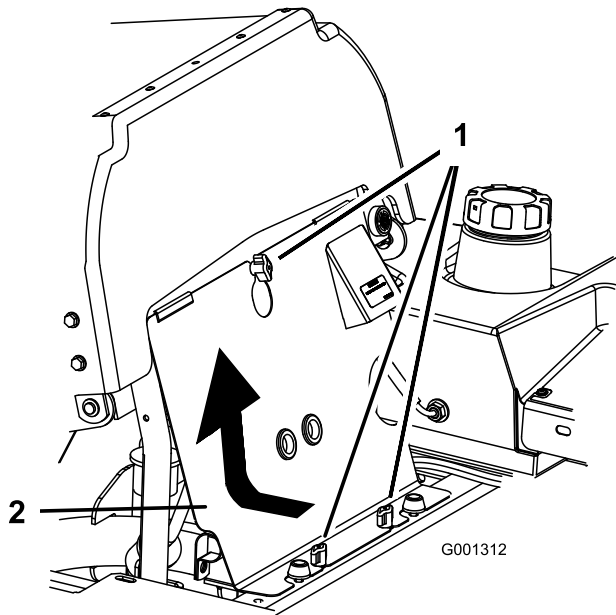

Figure 78
3. Loosen the front engine panel knobs and remove the panel (Figure 78).